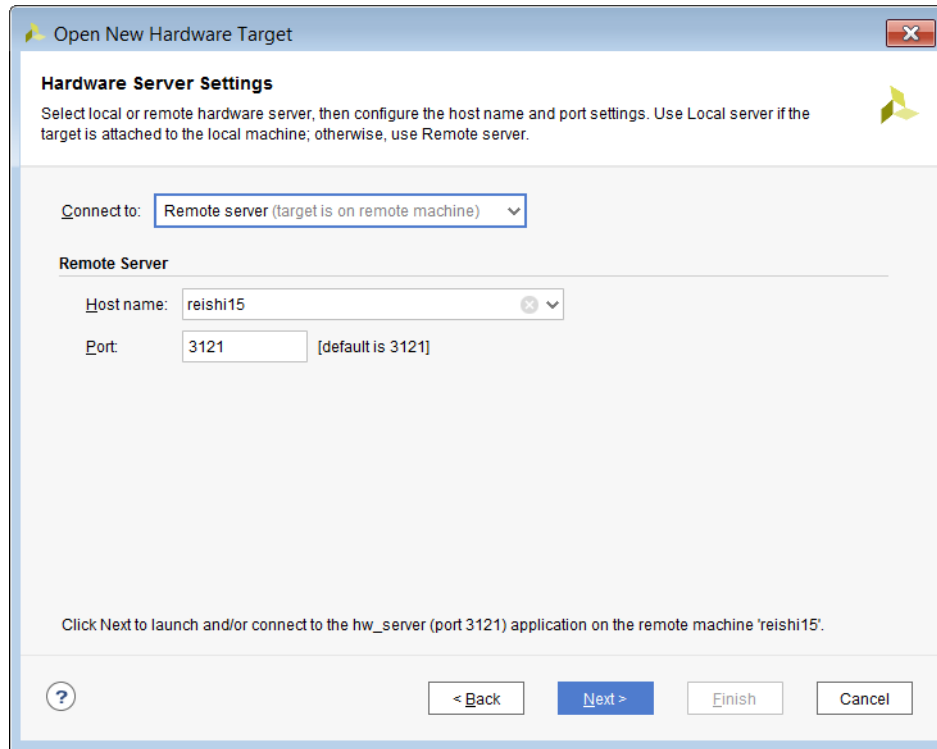

Figure 4-4: Using a Remote Hardware Server
- Remote server: Use this setting if your hardware target is connected to a different machine on which you are running the Vivado Lab Edition or Vivado IDE. Specify the host name or IP address of the remote machine and the port number for the hardware server (`hw_server`) application that is running on that machine (see Figure 4-4). Refer to Connecting to a Remote `hw\_server` Running on a Lab Machine, page 227 for more details on remote debugging.